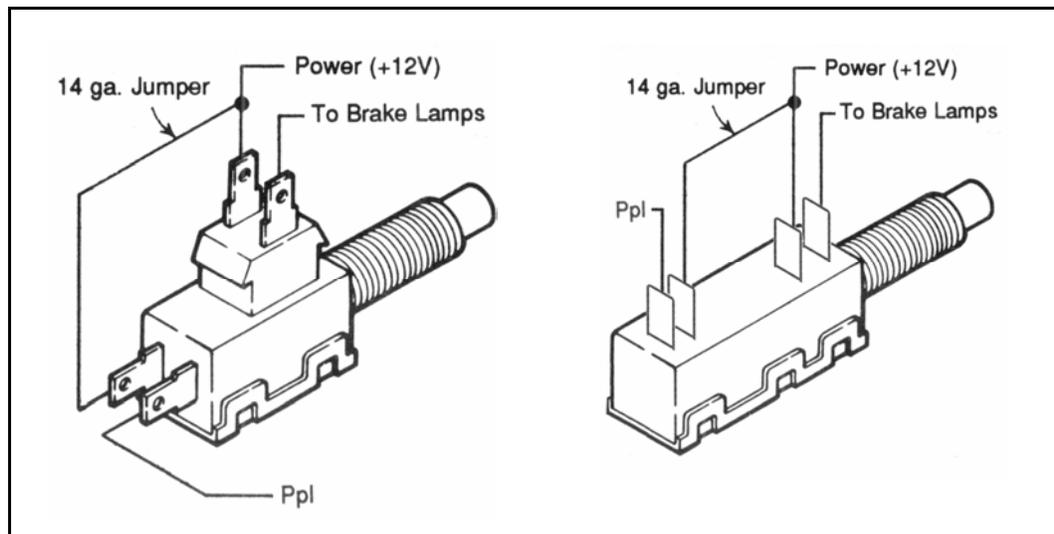

Figure 4.1 Brake Switch
- E. If you are using the recommended brake switch then you will wire it according to **Figure 4.1**. The wire jumped to the back of the switch in the illustration is the wire that has power on it whether or not the brake is being applied. If you have installed your own switch then it must connect the single purple wire to power **ONLY** when the brakes are **NOT** being applied. If you are using a hydraulic brake switch see page 15.